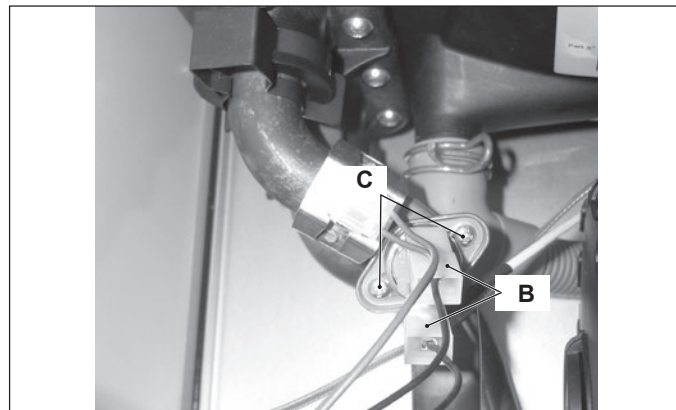

Figure 19.2
- 2 Disconnect the wiring "B" (detail in Figure 19.2).